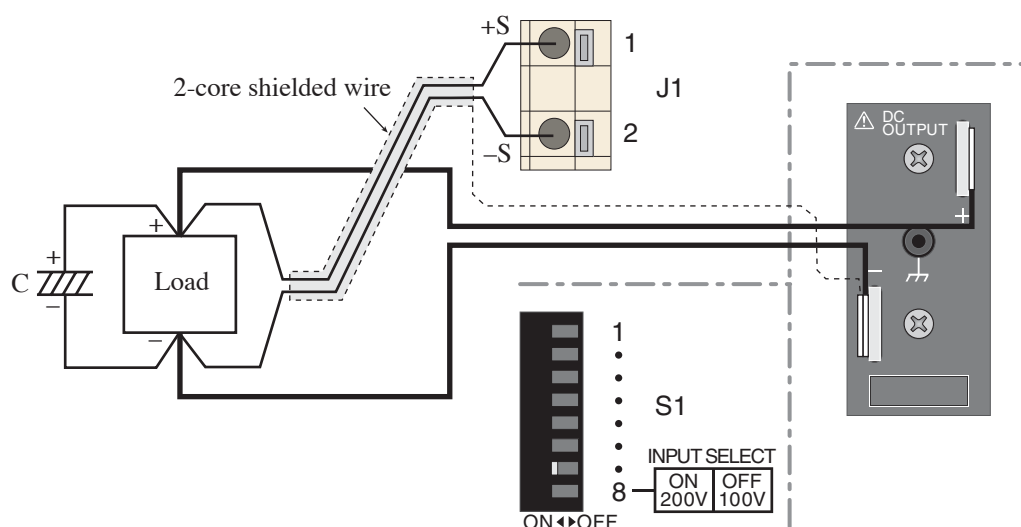

Fig. 4-4 Remote sensing connection
4. As shown in Fig. 4-4, connect a sensing cable between the J1 terminal board and the load end.